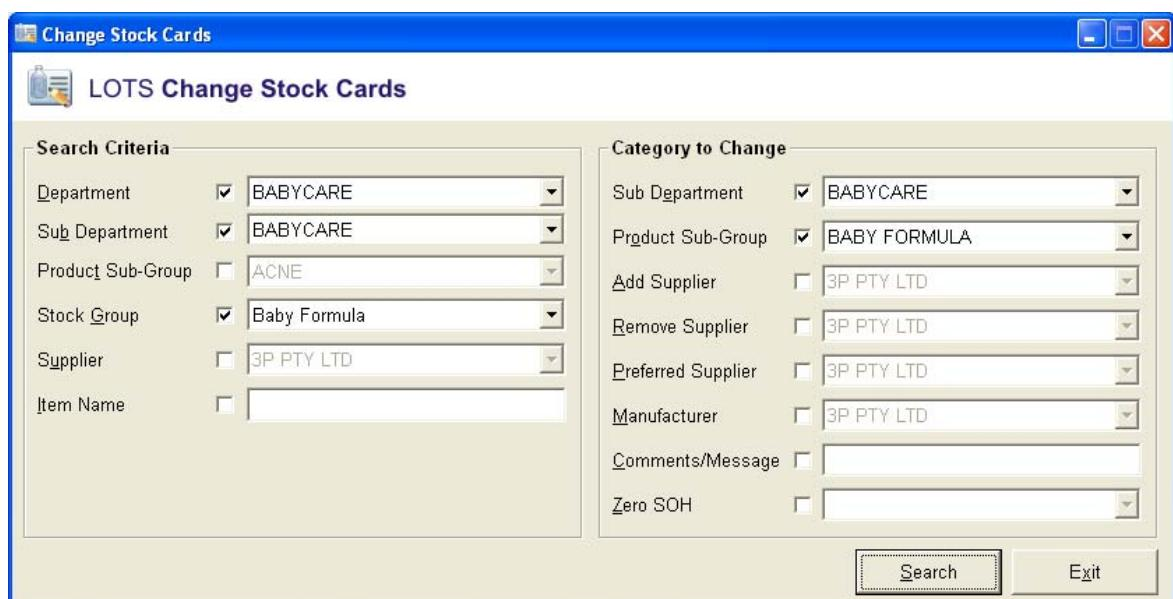

Figure 190
2. The Change Stock Cards window will be displayed (as shown in Figure 190). Use the 'Search Criteria' to filter for the stock cards you wish to change.
4. For example if you want to change the all items in the Stock Group 'Baby Formula' to the Product Sub-Group 'Baby formula'; then you would follow the example show in Figure 190.